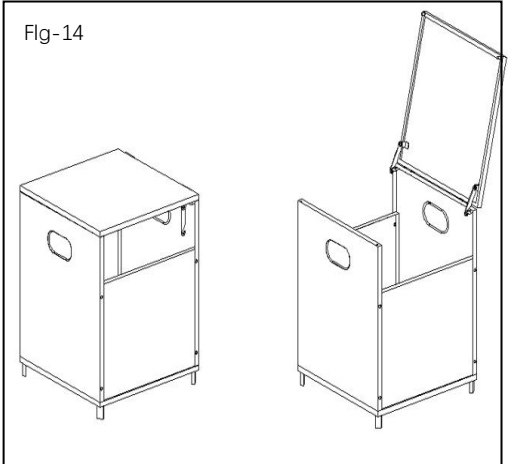

Fig.15
5. Attach regulator to cylinder and turn clockwise by hand. (Fig. 15)